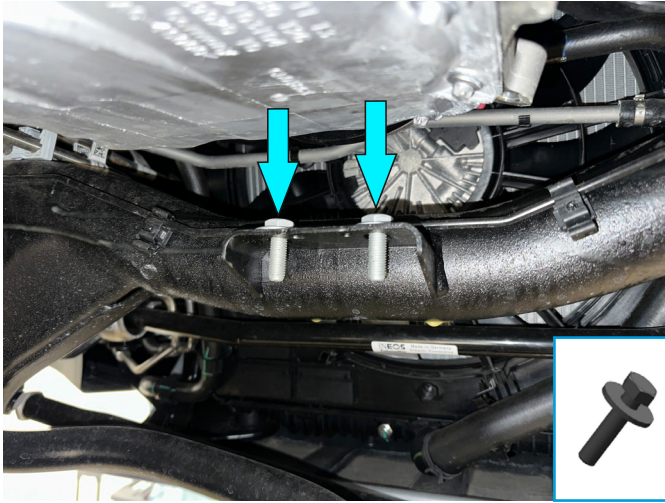

Fig. 1
1. Install M10x30 bolts with M10 washers (items B, E) through holes as shown in fig.1.